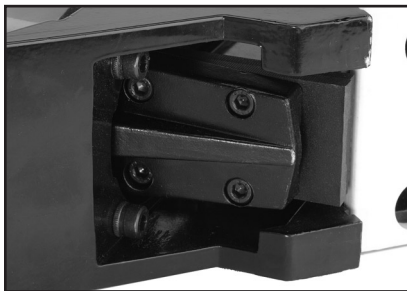

Figure 6. Cap screws securing the magazine.
4. Remove the cap screws shown in **Figure 6** that secure the magazine.